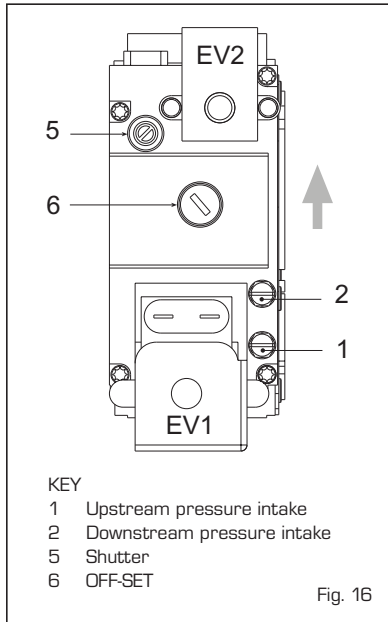

Fig. 16
4.1 GAS VALVE (fig. 16)
The boiler is supplied as standard with a gas valve, model SIT 822 NOVAMIX (fig. 16).
- 3) Identify the CO₂ values at max. power by adjusting the shutter (5 fig. 16):
- 5) Identify the CO₂ values at min. power by adjusting the OFF-SET regulation screw (6 fig. 16):